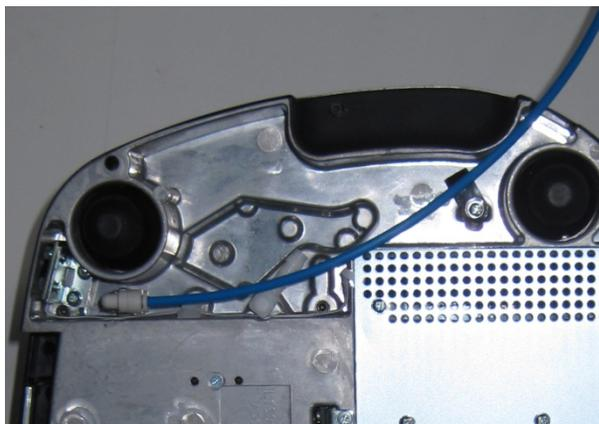

Figure 90 Tubing connected to instrument purge inlet port
12. Repeat steps 6–10 to connect the other piece of tubing to the instrument purge outlet port (Figure 90).